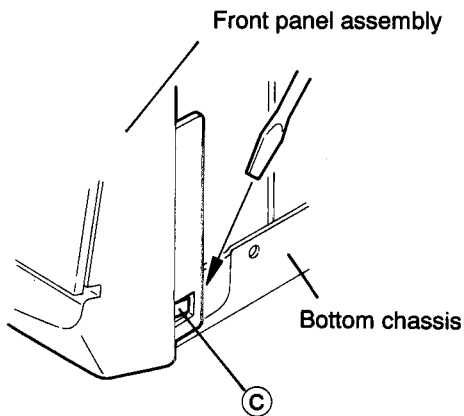

Fig.5-6
4. Use a screwdriver, etc., to disengage clips ③ and ④ from the side panels of the main unit.(See Figs. 5-6, 5-7)